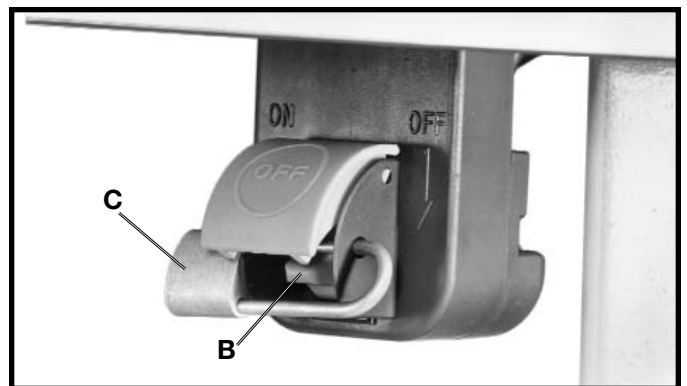

Fig. 56
IMPORTANT: When the tool is not in use, the switch (B) Fig.56, should be locked in the OFF position using a padlock (C), with a 3/16" diameter shackle to prevent unauthorized use.